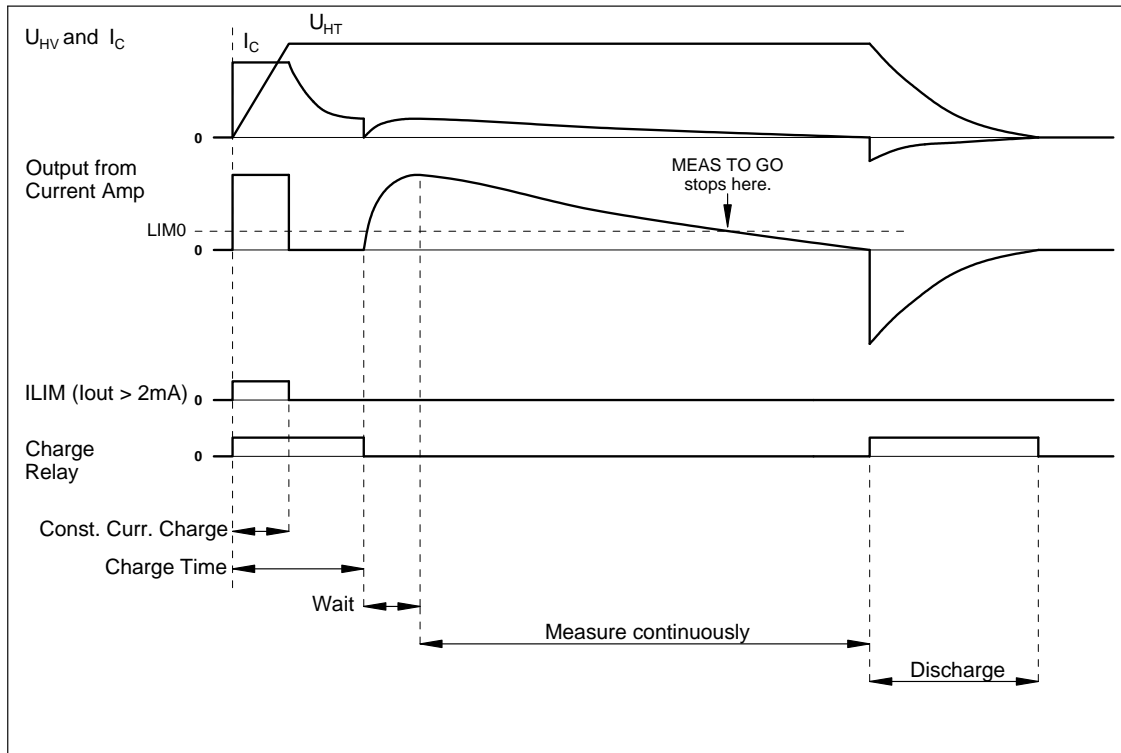

Fig. 2: Leakage current measurement.
Fig. 2 shows a typical sequence when measuring the leakage current (or IR) of a foil capacitor with dielectric absorption.
MEAS. TO GO	<p>Measure continuously until limit is met, then stop and discharge (see Fig. 2).</p> <p>Input param.: Range (RN) Average Count (AVC) Limitset (0: limits disabled) Time in ms</p> <p>The limitset should only contain one limit (LIM0). If the limit is not met the sequence will continue until the set time. BIN out will be updated continuously when a limitset different from 0 is selected.</p>